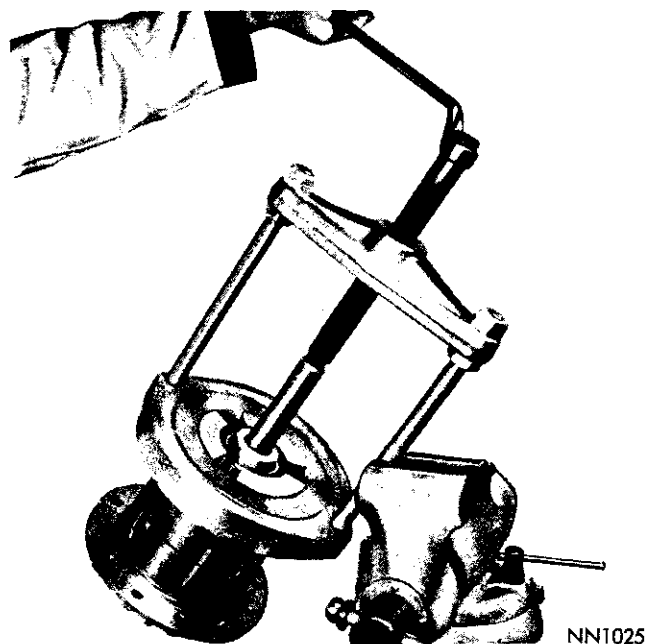

Fig. 19—Removing Differential Bearings
(15) Using Tool C-748, remove drive pinion oil seal. Remove slinger, gasket, front pinion bearing cone and preload shim pack. Record the thickness of the shims in case they should be lost.
(16) Position the carrier and tube assembly on an arbor press, then press out the drive pinion stem and rear bearing cone assembly.
(17) With the aid of a brass drift and hammer, drive out the front and rear pinion bearing cups from housing. Remove the shim from behind the rear bearing cup and record the thickness of shim pack.
(18) Remove rear bearing cone from drive pinion stem using Tool DD-914C or Tool C-293 and adapters No. 37.
(19) Remove differential bearing cones from differential case hubs using Tool DD-914C or Tool C-293 and adapters No. 62 (Fig. 19). Care must be taken to insure that bearing remover adapters are located so as not to pull on bearing cage.
(20) Remove the shims located behind each bearing and record thickness to aid in reassembly.